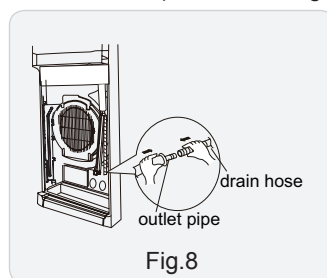

Fig.8
(1) Connect the drain hose to the outlet pipe of indoor unit. (As show in Fig.8)
(2) Bind the joint with tape. (As show in Fig.8)